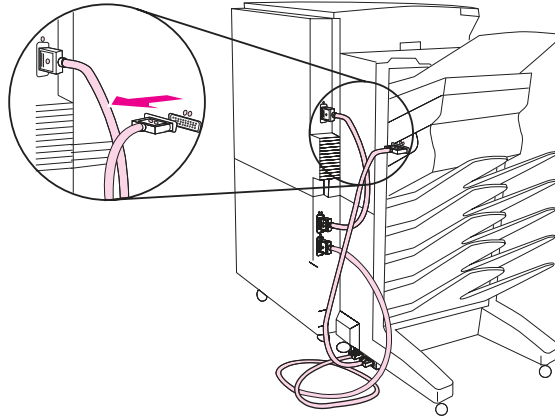

Figure 6-179 C-link Cable on Mailbox with Stapler
- 3 Disconnect the C-link cable connecting the mailbox to the stapler. See figure 6-179.